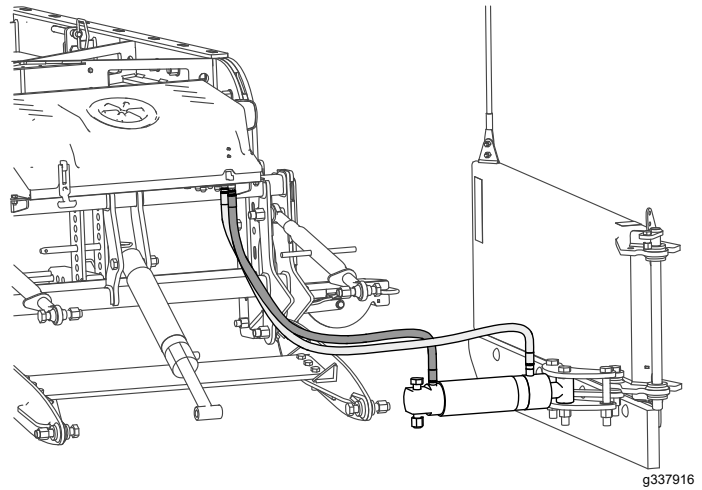

Figure 20
8. Route the gray hose from the right front port to the outer fitting on the right hydraulic cylinder as shown in Figure 20.
9. Connect the blue hose from the right rear port to the inner fitting on the right hydraulic cylinder as shown in Figure 20 and Figure 21.